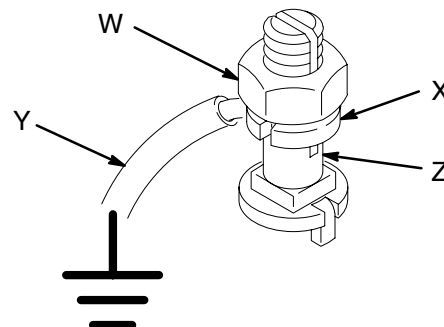

Fig. 2
1. *Pump*: use a ground wire and clamp as shown in Fig. 2. Loosen the grounding lug locknut (W) and washer (X). Insert one end of a 12 ga (1.5 mm²) minimum ground wire (Y) into the slot in lug (Z) and tighten the locknut securely. Connect the other end of the wire to a true earth ground. Order part number 237569 Grounding Clamp and Wire.